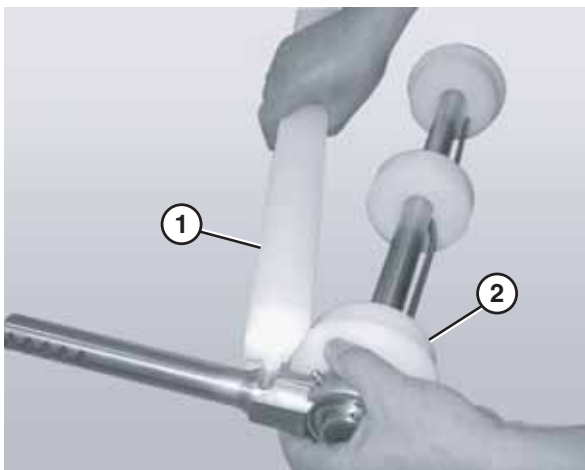

Figure 81
5. Slide the bearing shaft assembly (**Figure 81, item 2**) off the idler shaft.
6. Remove the guard bar (**Figure 81, item 3**).
7. Slide the pucks (**Figure 81, item 1**) off the idler shaft.